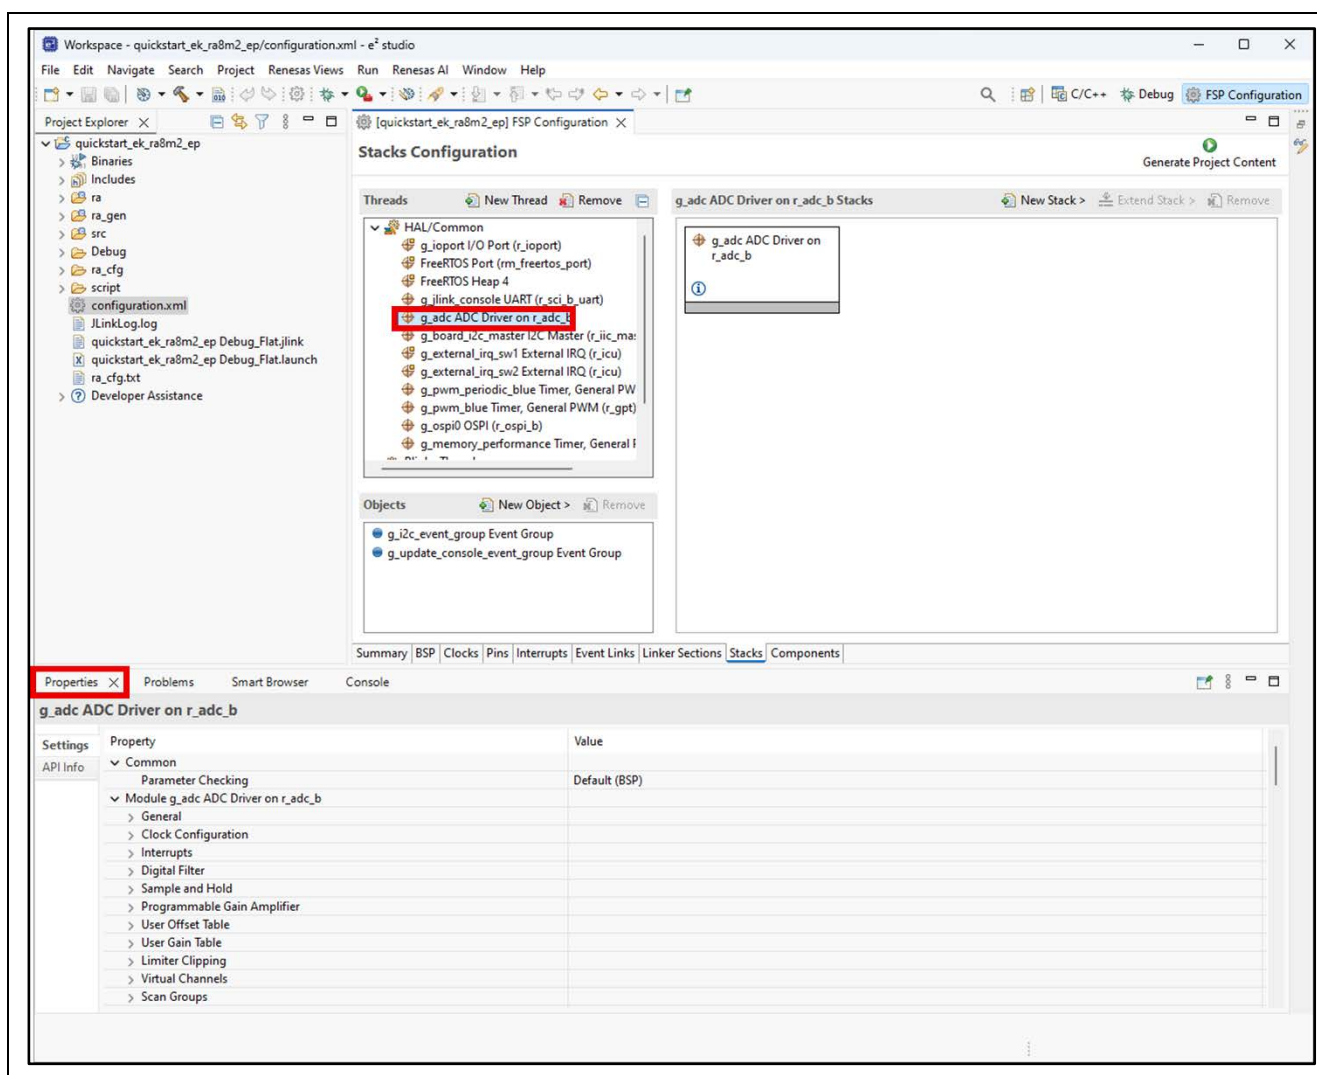

Figure 21. Modifying the Configuration Settings
- For example, in the **Stacks** tab of the FSP configuration, the user can click to select modules to modify the configuration settings, as required, in the **Properties** tab. Figure 21 illustrates modifying the **ADC** driver configuration.